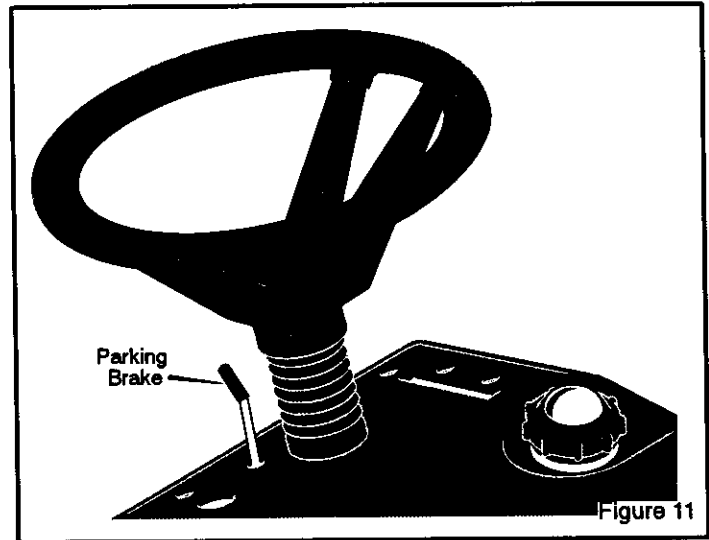

Figure 11
2. Lift the parking brake lever (Figure 11).